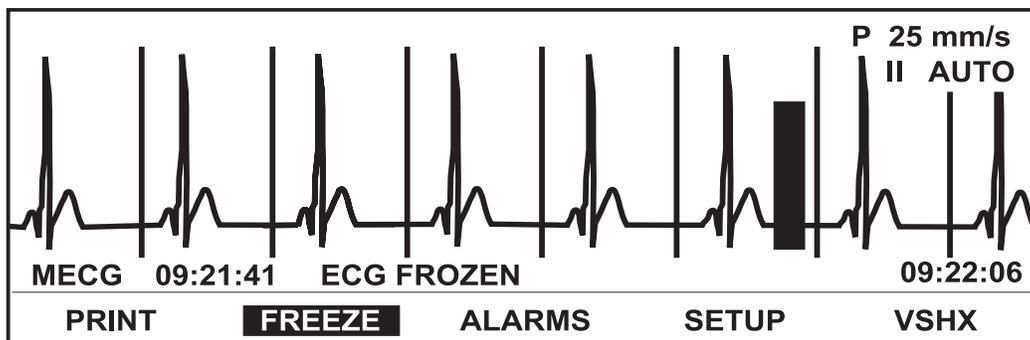

Figure 8-3. MECG Waveform with Pacer Enabled
- **On:** Use this setting for a patient who has a pacemaker. The monitor rejects the pacer spike from the heart rate calculation and replaces the actual pacer spike* with a pacer event mark; in addition the letter **P** is displayed prior to the waveform speed. **Figure 8-3** shows an example of an MECG waveform with the MECG pacer ON.